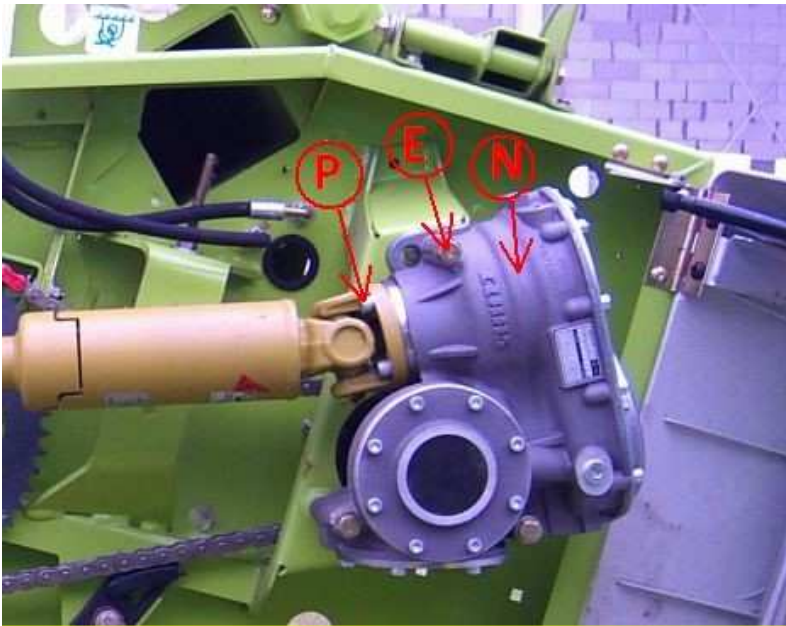

Figure 16
3.2 Dismantling from the blade drive CERIO bevel gearing. Figure 16
- Unscrew the four hex socket bolts (P) which secure the drive shaft to the bevel gearing (N).
- Unscrew the three screws (E) which secure the CERIO bevel gearing to the side wall of the header extension.